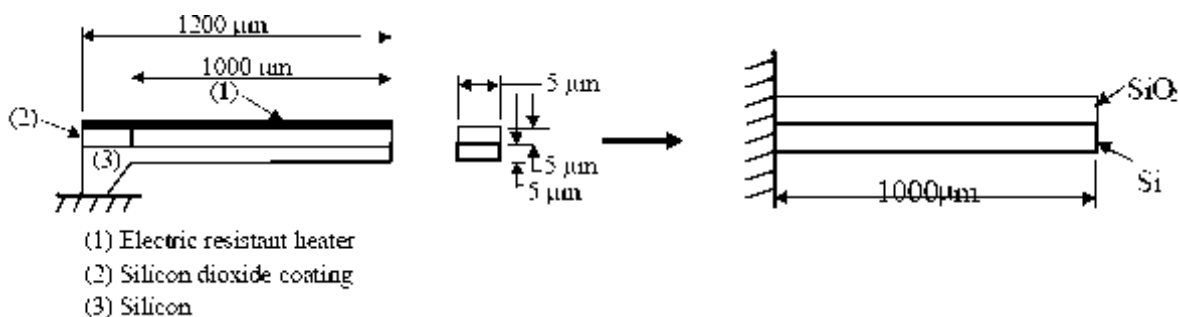

Fig.1
- (c) The bi-layer beam described in Fig.1 is used, but with the thickness of the SiO₂ film being reduced to 2 μm and the total thickness, h remains to be 10 μm, meaning the thickness of the Si beam being increased to 8 μm. Estimate what will be the change in the actuated strip. [(CO1)(Create / HOCQ)]